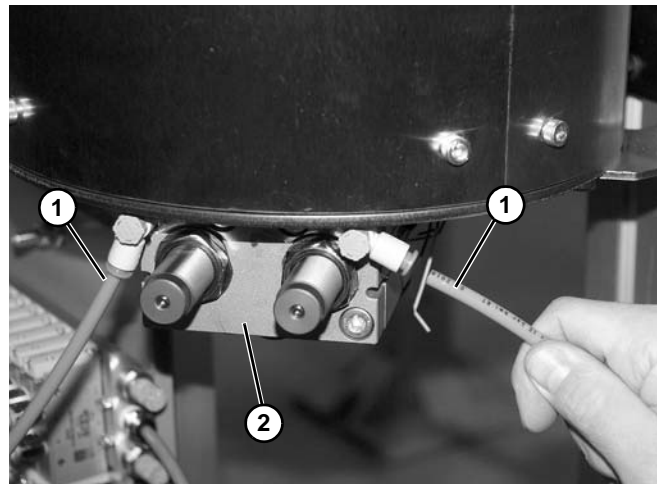

Figure 134
2. Disconnect both hoses (Figure 134, item 1) from fittings on turn and transfer assembly cylinder (Figure 134, item 2).